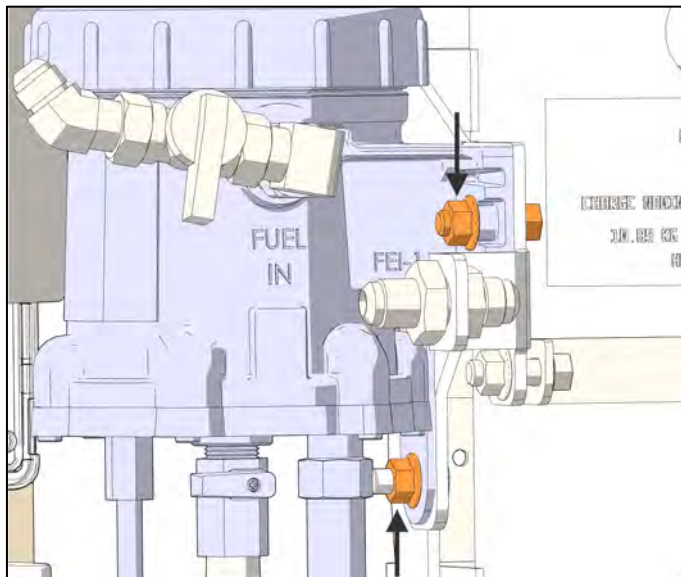

Figure 6: Fuel Pro mounting hardware
7. Remove all lines on the fuel pro unit. (Figure 6)